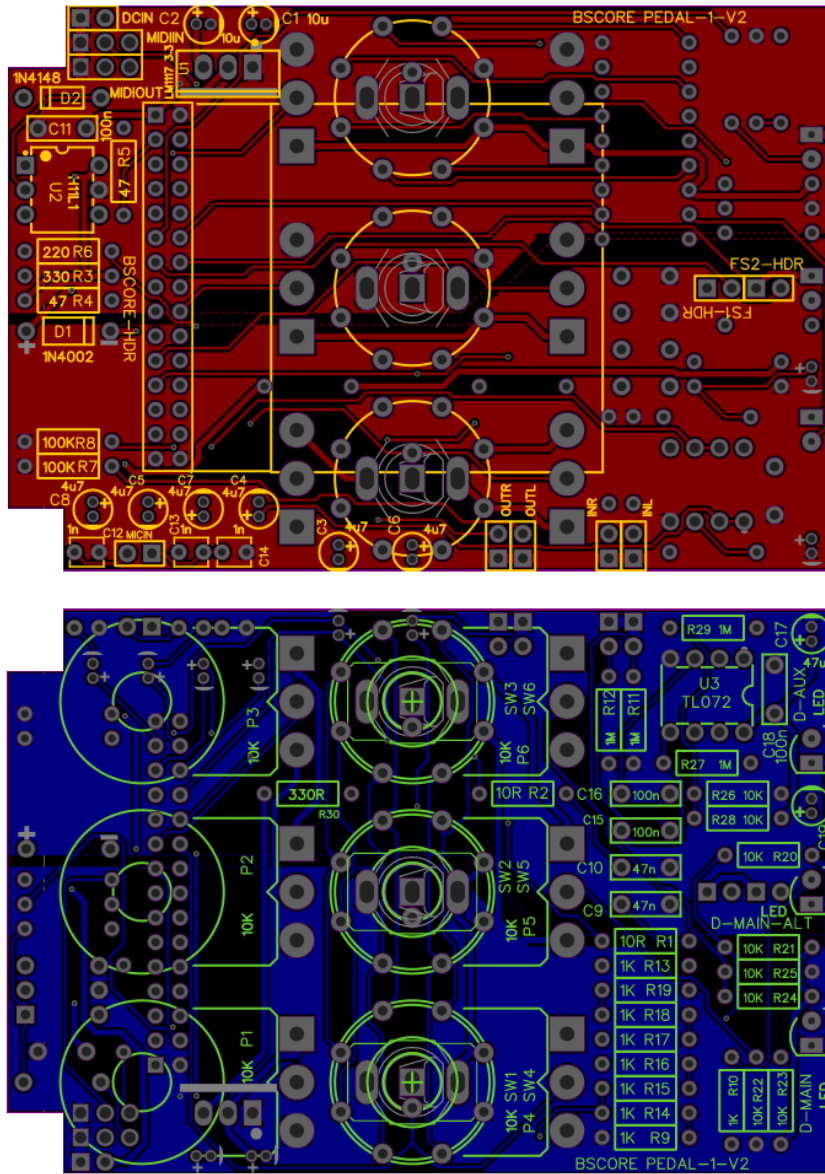

Figure 4. BGPM-1 PCB (Upper: TOP SIDE, Lower: BOTTOM SIDE)
- B) BGPM-1 PCB is shown in th Figure 4